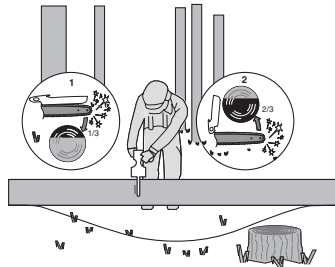

Figure 4
When the log is supported on both ends, as illustrated in Figure 4, cut 1/3 the diameter from the top (overbuck) (1). Then make the finished cut by underbuck (2) the lower 2/3 to meet the first cut.